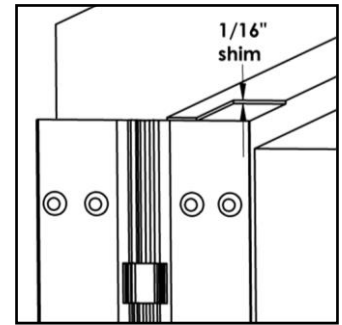

Fig. 1
1. With the hinge open, place the hinge frame leaf against the frame rabbet making certain that the alignment rib is flush against the frame face along its entire length. Position the top of the hinge 1/16" (1/8" maximum) below the header. **Note: A 1/16" shim is recommended due to initial settling of the bearings.** (See Fig. 1)
4. Using the transfer punch, center punch both the mounting holes and the wire access hole. See Fig. 1. The middle hole is the wire access hole.